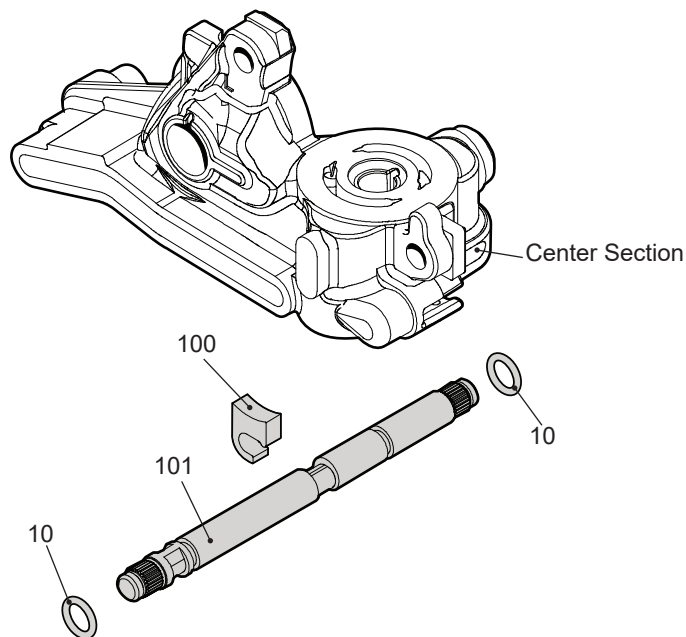

Figure 29, Brake Cam Kit
Refer to Figure 29
1. If removed, install brake pawl on brake shaft. Refer to figure 29 for orientation